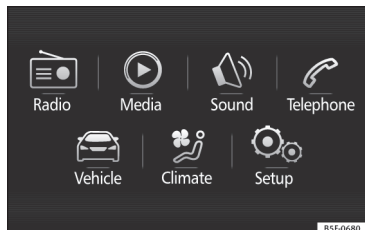

Fig. 40 Easy Connect: Main menu
- Press the system's **(MENU)** button and then the system's **(CAR)** button or **(CAR)** button to go to the **CAR** menu **»» Fig. 40** button or **(CAR)** button to go to the **CAR** menu **»» Fig. 41**.